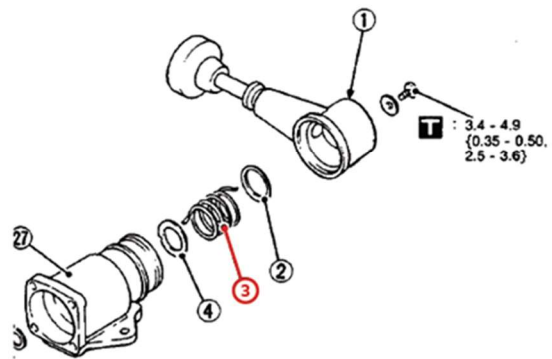

Figure 1. Handle lift to release (spring loaded to lock down)
- When rotating the hand control handle it should move freely and should be spring loaded to the OFF position (Figure 1, item 3: rotational spring)